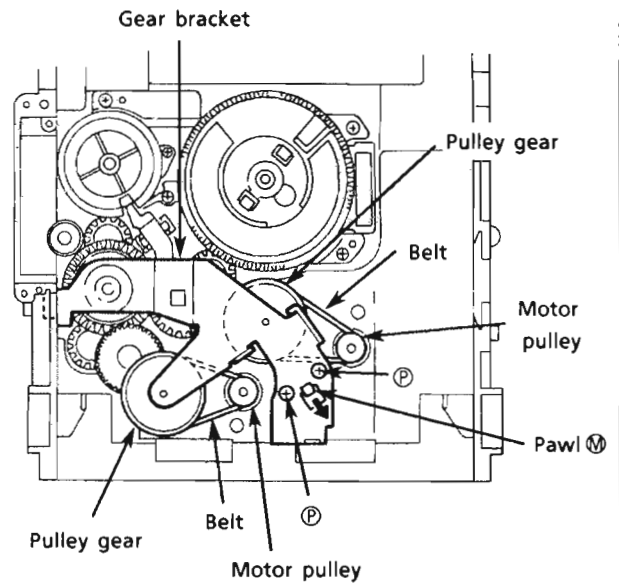

Fig. 44
(See Fig. 44.)
2. Press the pawl ② securing the gear bracket to the arrow in the figure to remove the gear bracket. (See Fig. 44.)
4. Remove each belts from the both actuator motor pulleys and the pulley gears. (See Fig. 44.)